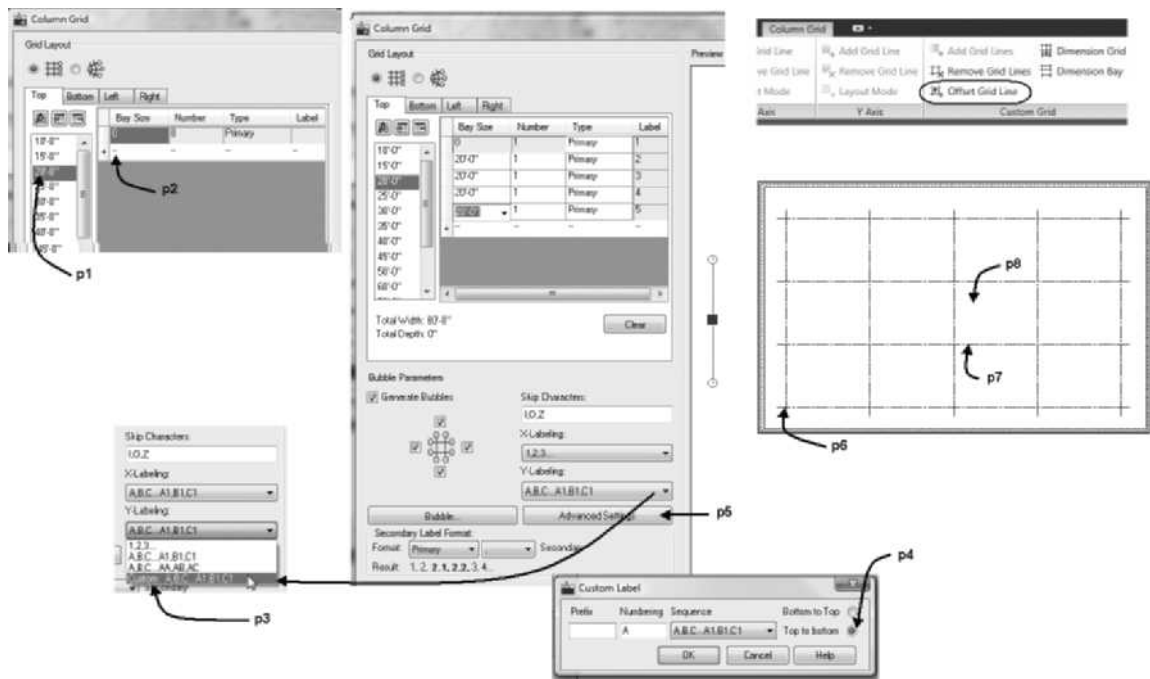

FIGURE 13.46 Modifying the Column Grid dialog box
4. Choose the Enhanced Column Grid Generate from the Build panel to open the Column Grid dialog box. Verify that the Top tab is current, click at **p1** shown in Figure 13.46 to add a 20' [6000] column grid.
5. Click at **p2** as shown in Figure 13.46, to add a 20' [6000] primary grid. Continue to click in the Bay Size field until the Total Width is 80'-0" [24000].
7. In this step you will modify the Y-Labeling to numbers and descending. Choose the **Custom** option from the Y-Labeling flyout as shown at p3 as shown in Figure 13.46 to open the **Custom Label** dialog. Overtyping **1** in the Numbering field and choosing the **Top to bottom** radio button shown at p4. Click OK to dismiss the dialog box.
8. Choose the Advanced Setting button at p5 shown in Figure 13.46 verify that the A-Bubble Extension is 14'-4" [4300] and B-Grid Extension and C-Grid End Space are 2'-0" [600]. Click OK to dismiss the dialog box.
Specify insertion point or [Rotate]: *(Choose a point inside the four walls near p6 as shown in Figure 13.46.)*
Select a custom column grid line: *(Select the grid shown at p7 in Figure 13.46.)*
Specify point on side to offset: *(Select a point at p8 as shown in Figure 13.46.)*